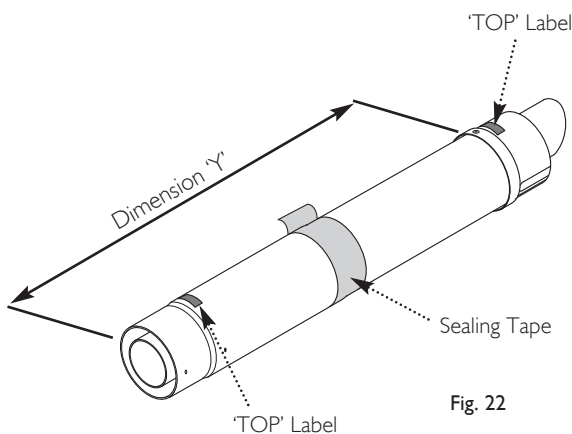

Fig. 22
8. Adjust the two telescopic sections to dimension 'Y' and seal the joint with the tape provided (Fig. 22). Ensure that the labels marked 'TOP' on the Terminal and Connection Assemblies are uppermost.